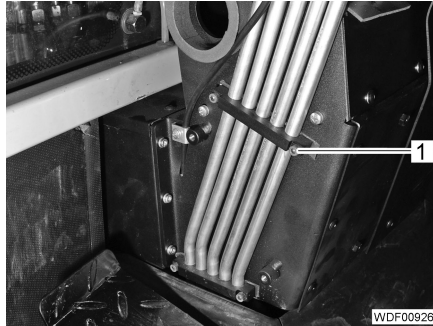

Fig. 189 Hydraulic lines
- Unscrew the 2 screws (Fig. 189,1) on the two holders.
- Tighten the 2 screws (Fig. 189,1) on each of the two holders.